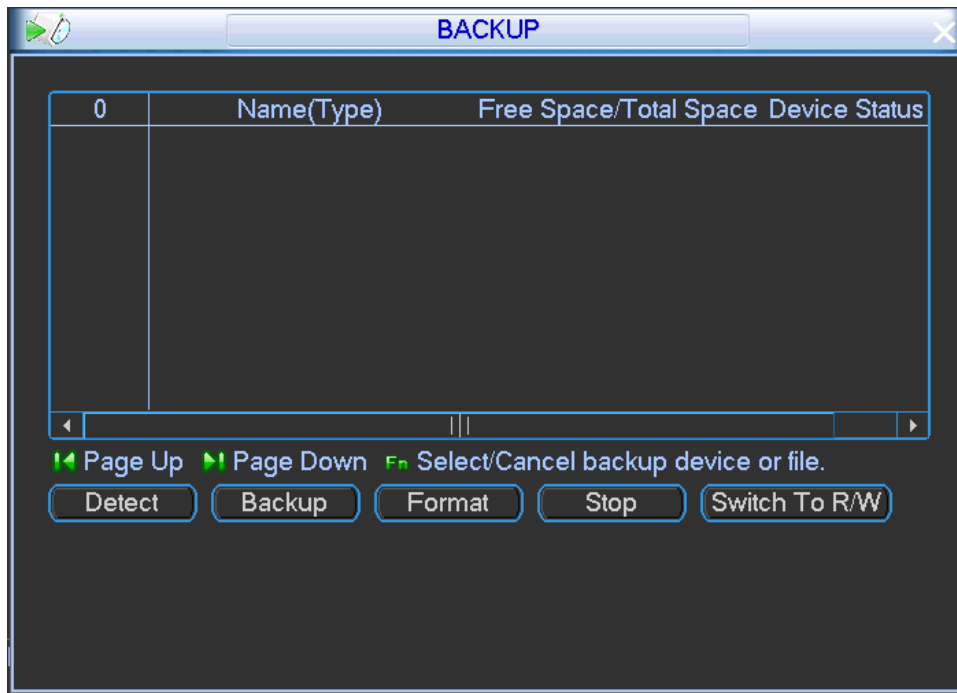

Figure 4-85
- Step 1 In main menu, from Operation->Backup, you can backup record file to the USB device. See Figure 4-85.